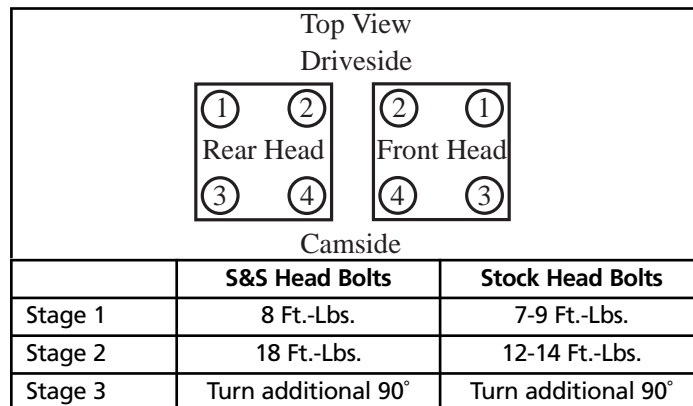

Figure 2
- I. Place one or two drops of oil on threads and under the head of each head bolt just prior to final assembly to reduce friction and insure accurate torque readings. Bolt heads on cylinders. Tighten bolts in stages using crossing pattern. **See Figure 2.**